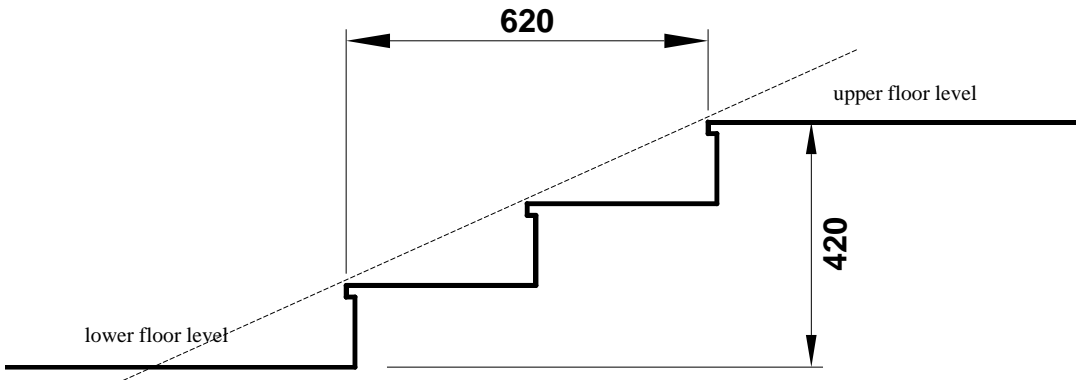

Figure Q8
8. *Figure Q8 shows a cross-section through a stair within a dwelling between a kitchen and dining area.*